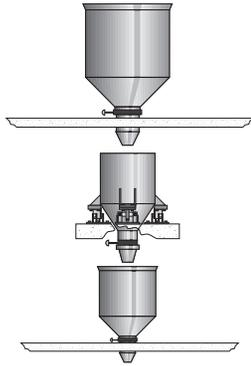

Figure 1-8
D. This arrangement is similar to Example C, however, a lower surge hopper has been added to speed up the discharge cycle. This system, shown in Figure 1-8, is typically used in multi-draft grain loadout systems where multiple drafts are required to fill a rail car or barge. The weight of each draft can be accumulated and the target weight of the final draft adjusted to achieve the desired car net load.